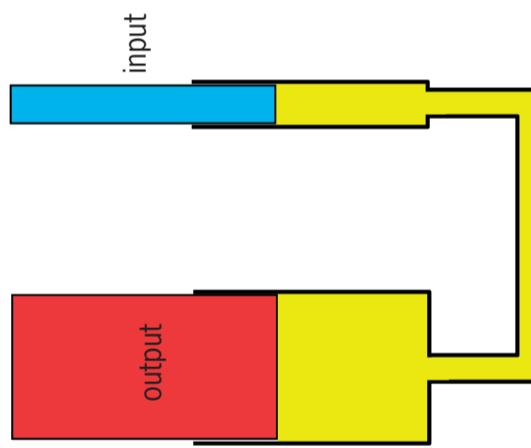

Figure 10
Figure 10 shows the same type of system as Figure 9. The yellow part is water or another type of liquid. The red and blue parts are cylinders that can move up and down.
2. (a) Imagine a hydraulic system such as in Figure 10 that is about 50 cm high. If the blue cylinder is pushed down by 5 cm, will the red cylinder move upwards by 5 cm, by less than 5 cm or by more than 5 cm?